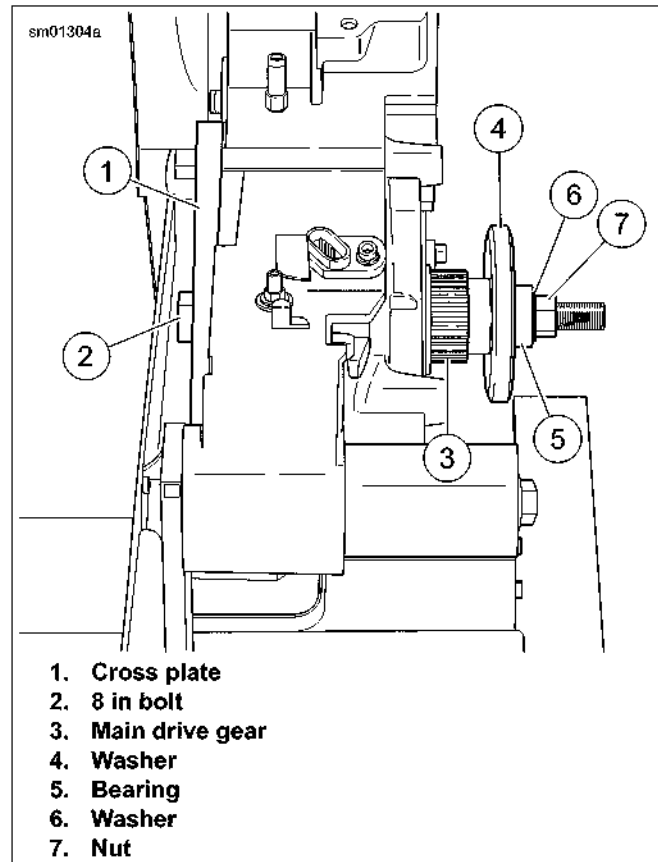

Figure 5-44. Removing Main Drive Gear
4. See Figure 5-44. Insert 8 INCH BOLT (Part No. HD-35316-4A) (2) through cross plate (1) and main drive gear (3).
5. At outside of case, place WASHER (Part No. HD-35316-7) (4), BEARING (5), FLAT WASHER (6) and NUT (7) over end of bolt. Tighten nut until main drive gear is free.